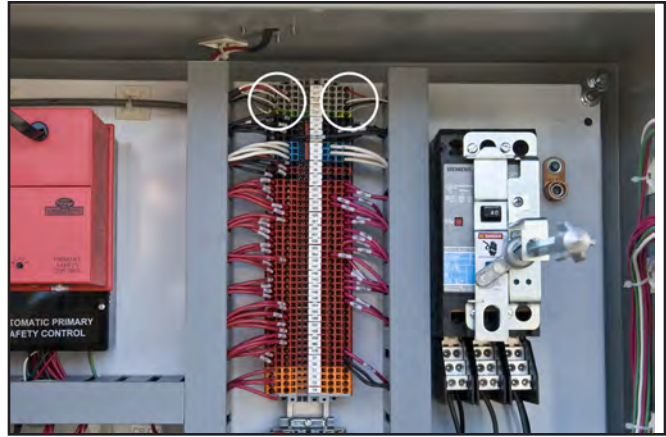

Figure 6. Terminal connections on back plate of heater panel.
- Terminal strip on back plate of heater panel (**Fig. 6**).